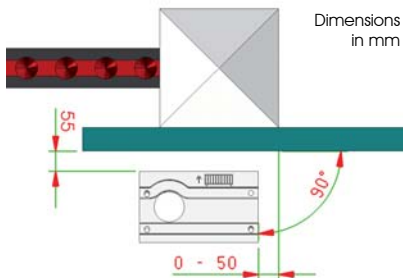
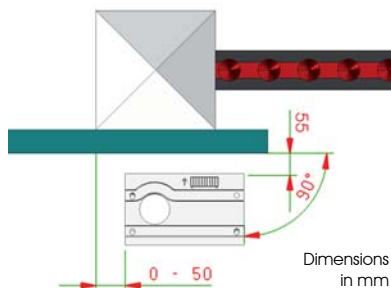

Fig. 5
Fig. 6
2. The foundation plate must be located as shown in Fig. 5 (right closing) or Fig. 6 (left closing) to ensure the rack and pinion mesh correctly.